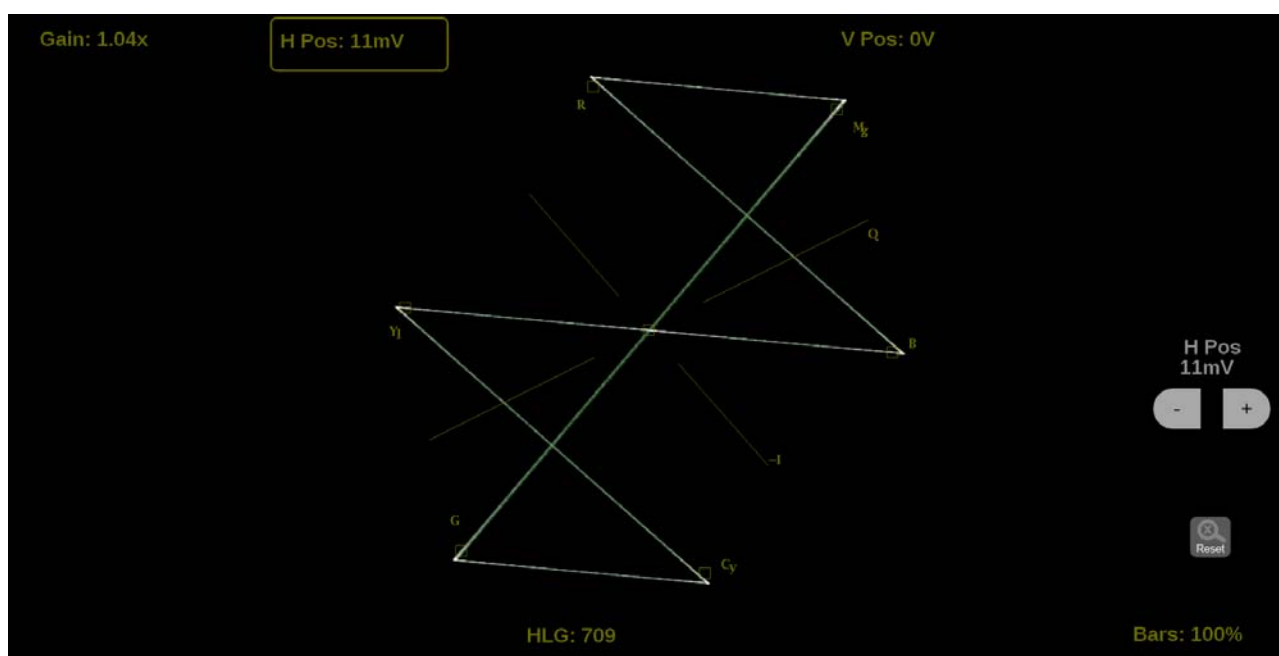

Figure 95: Vector on-screen tools – horizontal position
1. Touch the **H Pos** button to allow adjustment of the horizontal trace. (See Figure 95.)